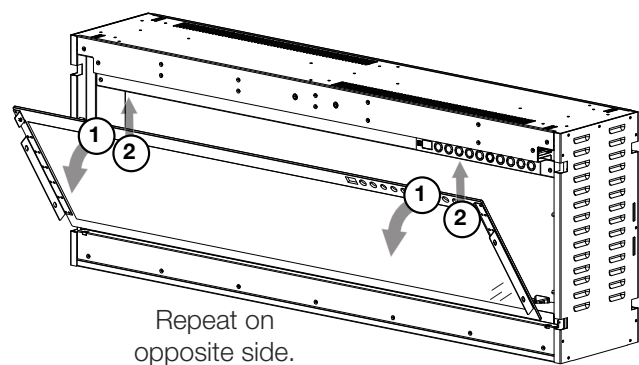

Fig. 4-4
- Have 2 people lift the front glass up and out, pivoting it away from the side panels (**Fig. 4-4**). Place the front glass face down on a soft, non-abrasive surface.